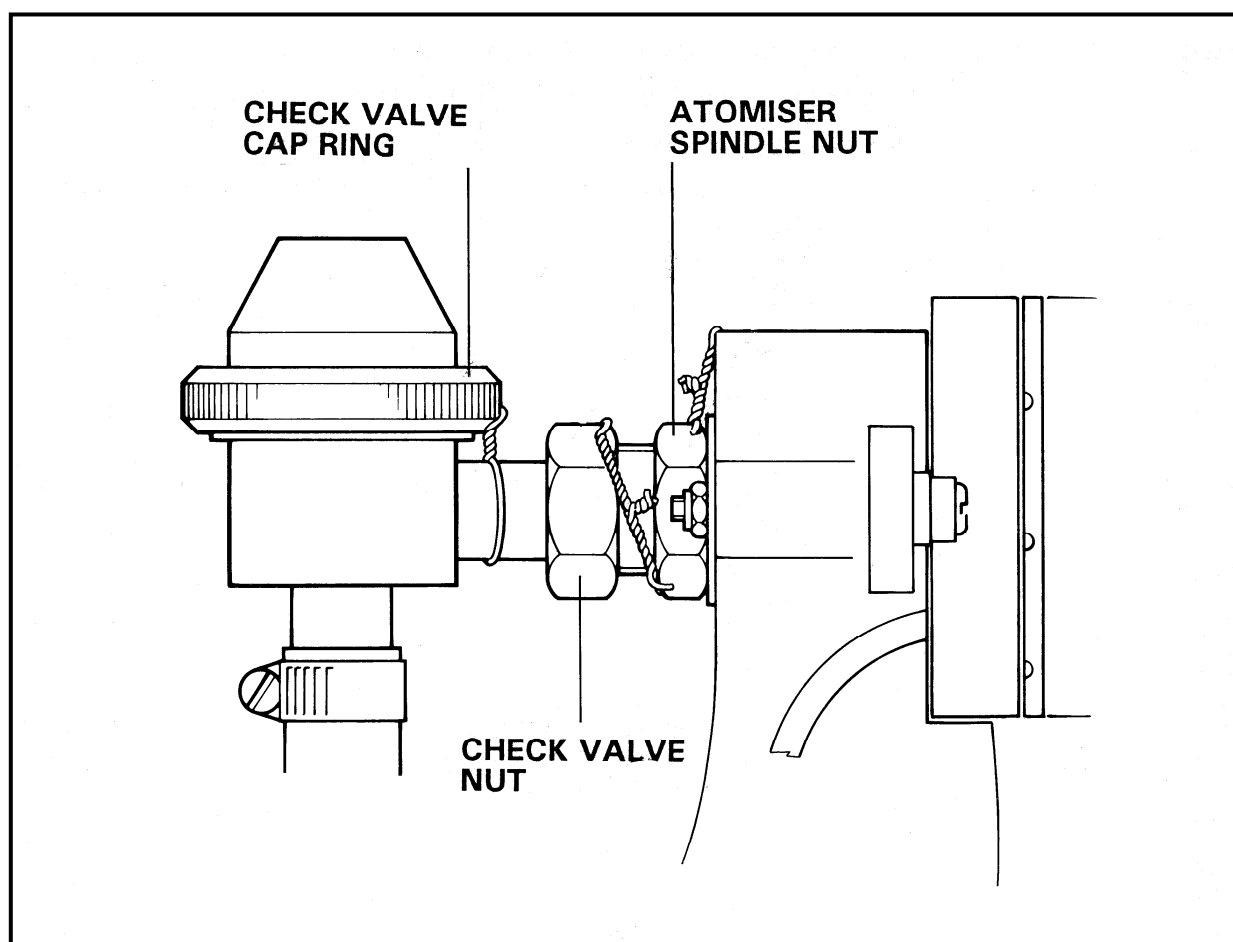

Fig. 2 – Wire Locking of Atomiser and Components
1. Tighten the atomiser securing nut CB155 to a torque of approximately 14 nm (10 lb ft) and wire lock to the hole provided in the atomiser mounting clamp or block as shown in Fig. 2.
2. Tighten the diaphragm check valve outlet nut and wire lock to the second hole in the atomiser securing nut as shown in Fig. 2.